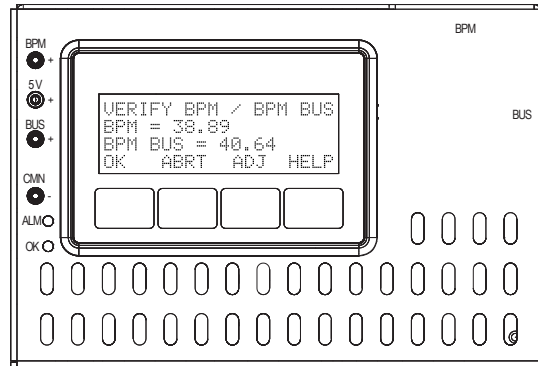
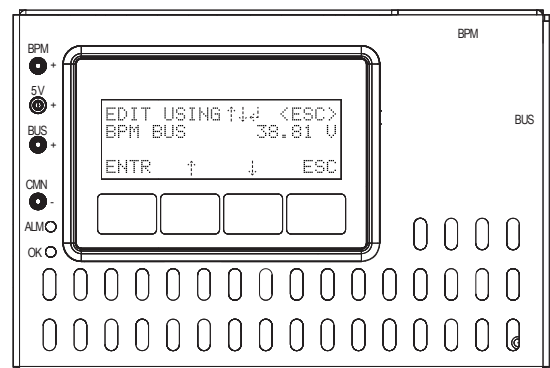

Fig. 5-7, Verifying BPM / BPM BUS
Fig. 5-9, BRD Screen - Voltage Adjustment
7. Use the previously on-site calibrated DMM to verify BPM voltage. Place meter's common lead in the CMN- test point on the BRD, place the meter's positive lead in the BPM+ test point, and verify the meter displays between 30 and 41VDC. Verify the BRD displayed value. If the difference between the DMM and BRD readings are greater than 0.03VDC, press the **ADJ** softkey on the BRD to adjust the voltage closer to what the DMM measures. Use the arrow softkeys to adjust the displayed values. If the difference is within spec, press the **OK** button. (See **Fig. 5-7** to **Fig. 5-9** for reference.)